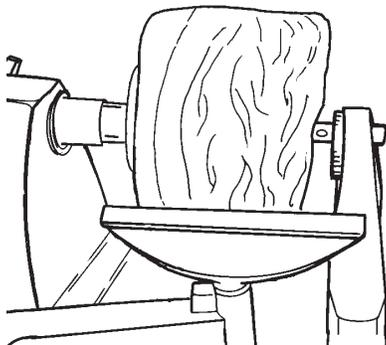

Figure D-49a
- Large, heavy stock should be turned only at very low speeds (as programmed in the Mark 7 Control Panel), AND with the extra support of the tailstock, as seen in Figure D-49a.
- Turn the outside first. Adjust the height of the tool rest and align it parallel to the stock and not more than 1/4" away. When turning heavy stock mount the tool rest in the center position. Support the stock with both the main spindle and the tailstock, as shown in Figure D-49a.